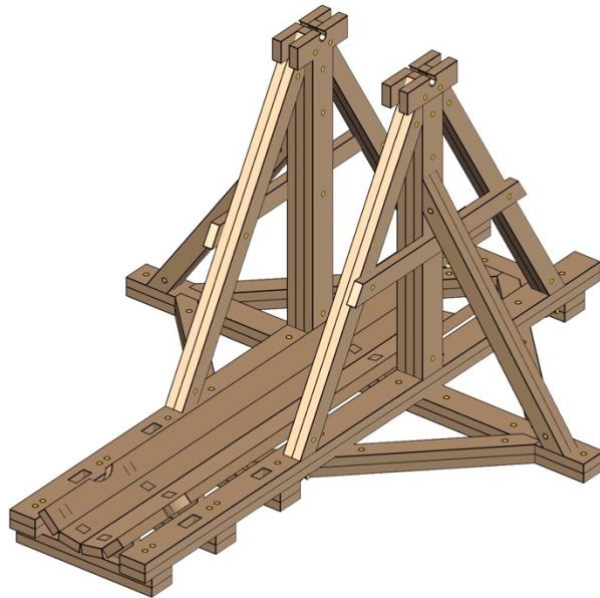

Fig. 57
- Fig. 57 shows the completed process.